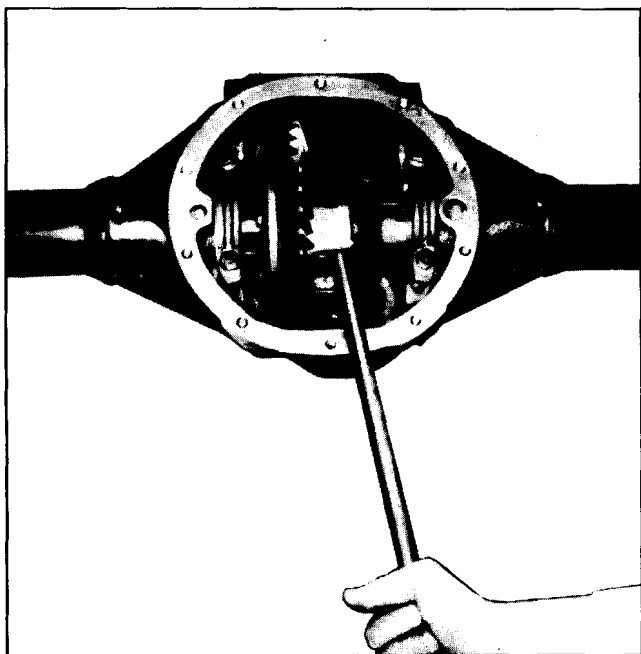

Fig. 4C-6 Removing Differential Case
2. Position case in vise and remove side bearings using Puller J-22888 and Plug J-8107-4 (all exc. B Series, "G" and "K" coded axles) or plug J-8107-2 (B Series, "G" and "K" coded axles). See Fig. 4C-7.